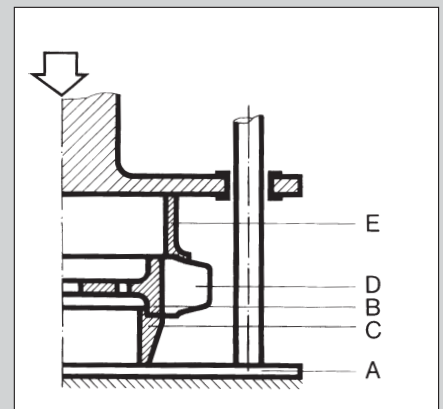

Fig. 9
**Removal Procedure (Fig. 9)**
- Place expansion ring (C) on press platen (A).
- Center hub (B) with firmly seated friction ring (D) on expansion ring.
- Center press-fit ring (E) on friction ring.